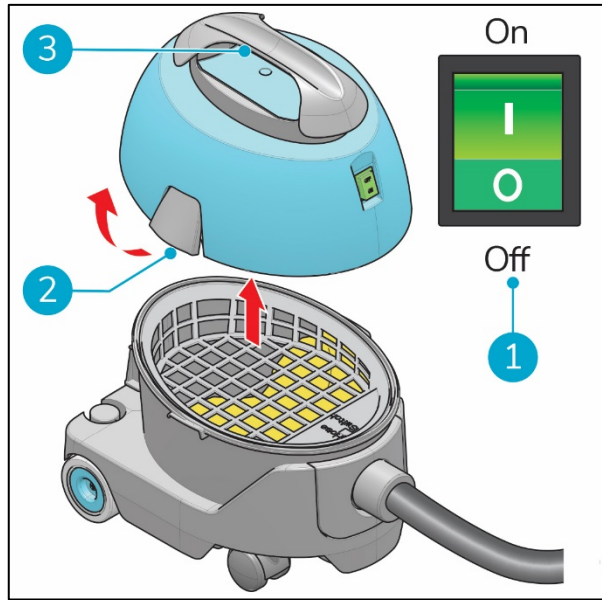

Figure 18
1. Turn off the i vac 5® with the ON/OFF switch (Figure 18, pos 1).
2. Release the latches (Figure 18, pos 2).
3. Lift the head by the handle (Figure 18, pos 3).